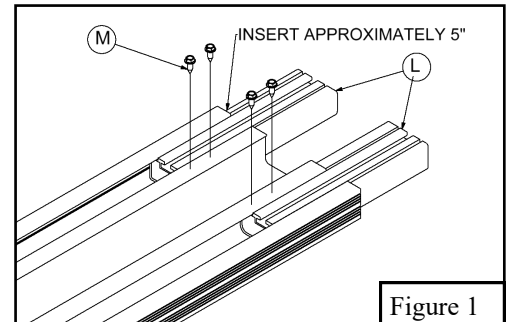

Figure 1
1. 15' and 21' seat and foot planks are shipped in multiple sections. 15' planks consist of two 7 1/2' *Aluminum Seat Planks* (A). 21' planks consist of one 6' *Aluminum Seat Plank* (B) in the middle with one 7 1/2' *Aluminum Seat Plank* (A) on each end.
2. Plank sections are connected using *Seat Connector Tubes* (L), *Seat Connector Caps* (I), #14 X 3/4" *Self Drilling/Threading Hex Screws* (M) and 3/8" *Hex Magnetic Screw Drive Socket* (N).
3. Insert two *Seat Connector Tubes* (L) approximately 5" into the end of each plank that will be attached to an adjoining plank. Using 3/8" *Hex Magnetic Screw Drive Socket* (N) and a cordless or electric drill install two #14 X 3/4" *Self Drilling/Threading Hex Screws* (M) through the plank and into each *Seat Connector Tube* (L) located approximately as shown. See Figure 1.